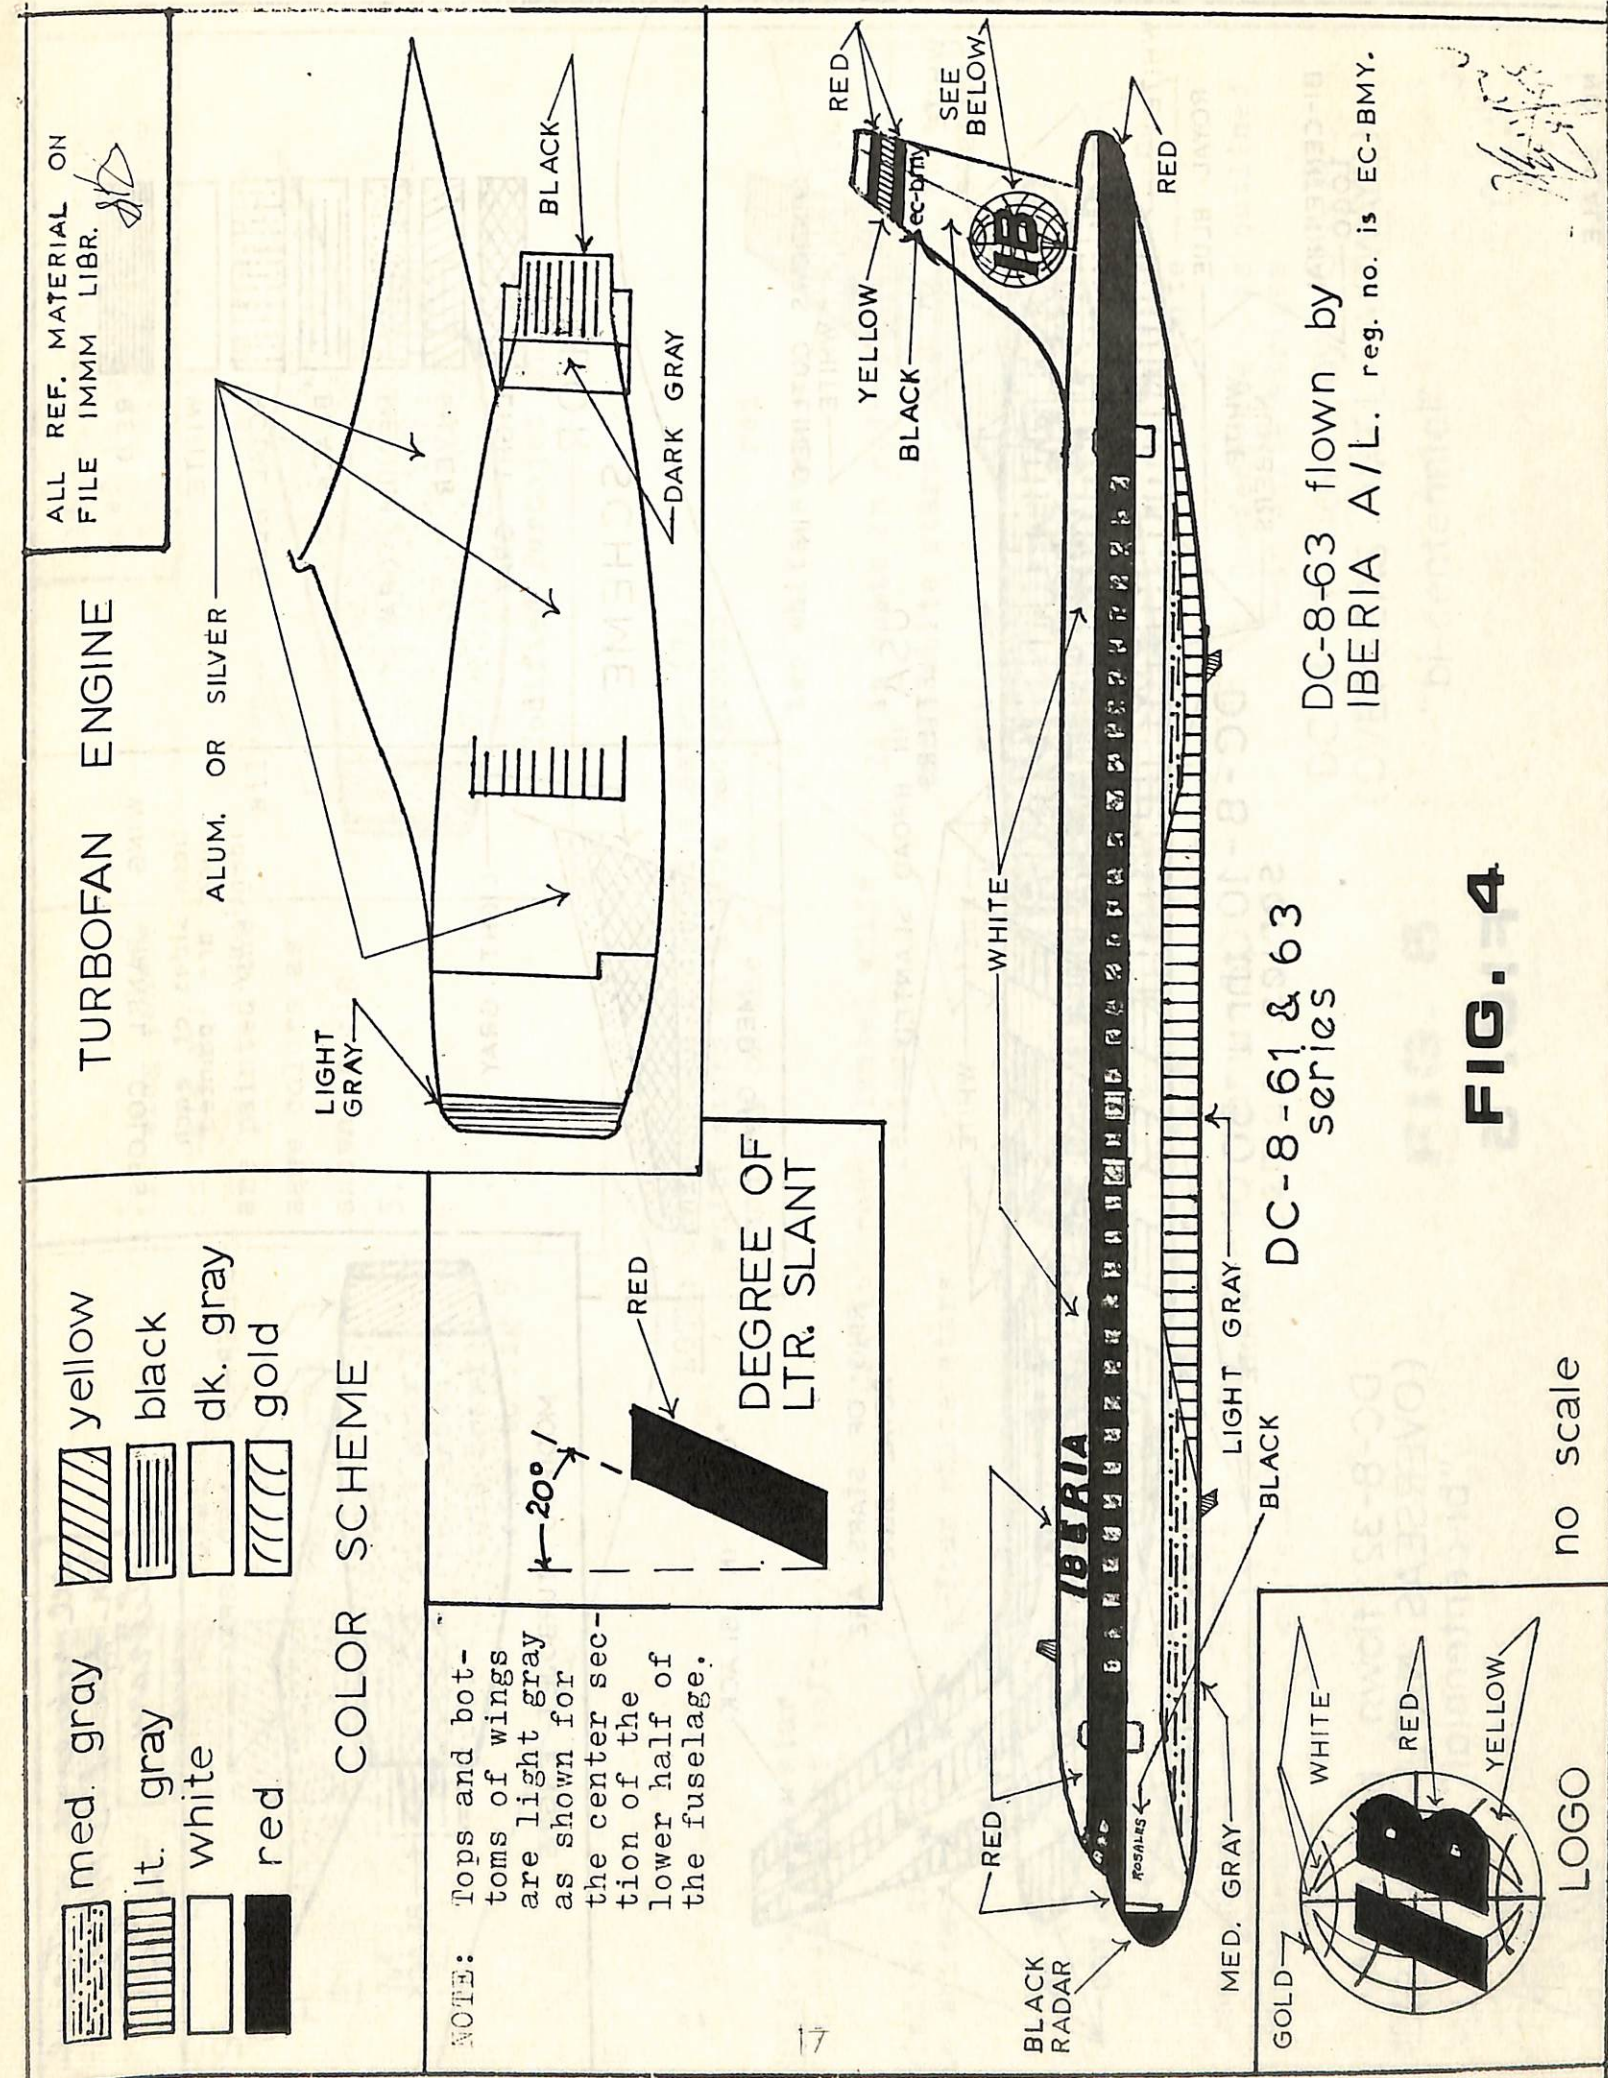

FIG. 5
5. The next two examples (Fig. 5 and 6) are without a doubt the most colorful of any of the DC-8s flying. Both of these aircraft plied the world airlines displaying their colors during the Nation's BiCentennial celebration during 1976 and 1977. These two examples were operated by Overseas National Airways and the color schemes were designed by company employees, so the story goes.
The next few remarks apply to Fig. 5.
6. Modeling this example is somewhat of a repeat of Fig. 5. The rear half of the fuselage is painted solid red except for the Confederate X that appears on the side. The X is royal blue with Micro Scale stars numbering 7 each way over laid on the blue background. Surrounding the X is a thin pin stripe of white. The vertical tail assembly bears a different arrangement of stripes, stars and letters also. The top blue stripe surrounded with white pin stripes contains only two stars in white. The letters O N A are white and are on a red stripe. The bottom stripe is again royal blue surrounded with white stripes but contains three white stars. The registration number appears midway between top and bottom of the rear fuselage and they are in white on red. I used Micro Scale railroad numbers from the railroad decal sheet. The forward section of the model is finished exactly as for figure 5 except the star on the nose and the name are omitted. The bi-centennial logo; the years separated by a white star; the four large white stars; and, the large U S A are exactly as they were for example 5. The wings, engines, and pylons are painted exactly as the previous figure.